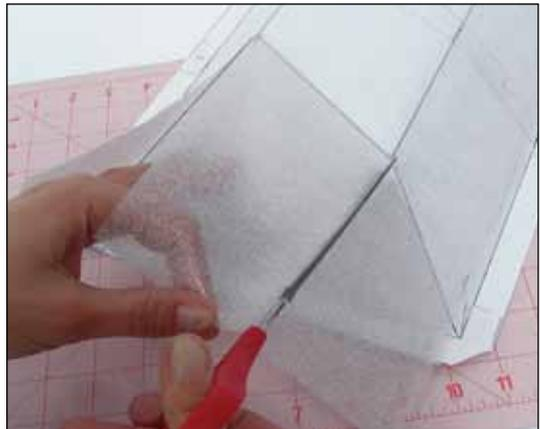

Figure 9
3. With the foam out straight from the box sides, use the scissors to cut a slit to the edge of the box top where there are creases between Sections A and B and B and C (Figure 9). Do this for both sides of the box.